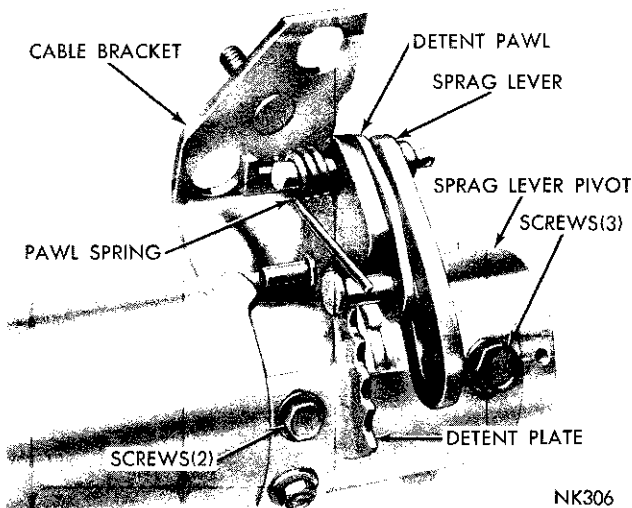
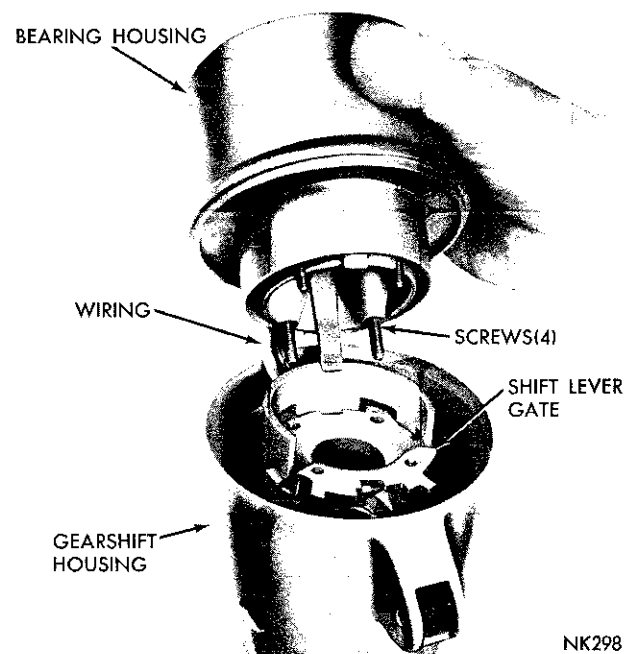
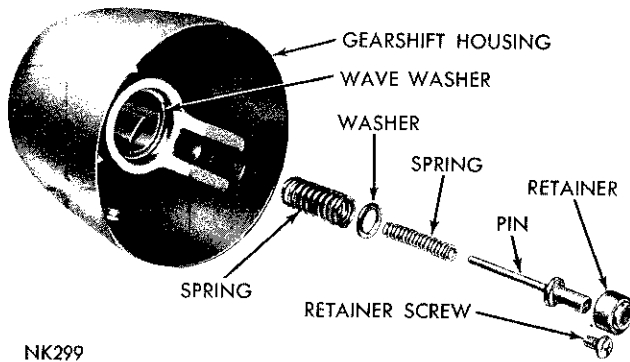

Fig. 10—Lower End of Column—Assembled View
Fig. 12—Disassembling or Assembling Upper End of Column
Fig. 13—Gearshift Housing—Disassembled
(7) Remove the pawl spring (Fig. 10). Remove the three screws from the slotted holes in the column jacket and lift out the sprag lever pivot and nylon washer. Remove the sprag lever and the detent pawl. Remove two screws and lift off the detent plate. Remove the cable bracket.
(9) Remove the turn signal switch retainer from the bearing housing and lift the switch upward out of the way (Fig. 12). Remove four screws from inside the bearing housing to separate it from the shift lever gate. Slide the gate out of the column jacket. If necessary, tap the column bearing out of the bearing housing.
(10) Lift the gearshift housing off the column jacket and remove wave washer from the hub counterbore (Fig. 13). If necessary, remove the shift lever crossover spring load parts (Fig. 13).
(1) If removed, install the insulator sleeve, column support plate and lower lever seal (boot) on the column jacket before assembling other parts.
(2) Install the shift lever crossover spring load parts in the gearshift housing (Fig. 13). Be sure all of the parts move freely in the bore, then install the retaining screw. Coat the wave washer with heavy grease and place it in the hub counterbore.
(3) Install the column upper bearing in the bearing housing, make sure the bearing is fully seated in the housing.
(4) With the column jacket held upright, place the gearshift and bearing housings on the jacket. Thread the turn signal switch and horn wires through the two housings, down into the column jacket and out through the proper opening on the side of the jacket.
(5) Raise the bearing housing and slide the shift lever gate into the upper end of the column jacket (Fig. 12). Place the four retaining screws in the bearing housing (note the screw lengths, Fig. 12). Lower the bearing housing and progressively thread the screws into the shift lever gate, then tighten the screws securely.
(6) Slide the spacer and felt washer on the gearshift tube. Install the coil spring (closed coil end first) on the upper end of the gearshift tube. Slide the tube assembly into the column, making sure the spring will easily push the tube outward when hand pressure is released.
(7) Refer to Figure 10, and install the detent plate
(11) Install the cable bracket (Fig. 10) and tighten the two retaining screws. Slide the seal (boot) down in position over the cable bracket.